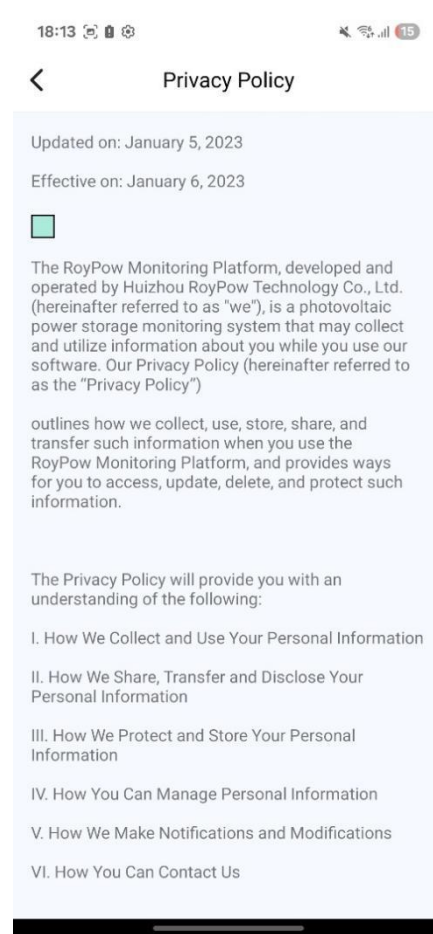

Fig. 5.2.3 Privacy Policy
2. Users can access the "Privacy Policy" by clicking on "**About**" and then selecting "Privacy Policy" at the bottom. This provides information about the specific permissions and purposes for which this software obtains permissions during installation and use. as shown in Fig. 5.2.3.